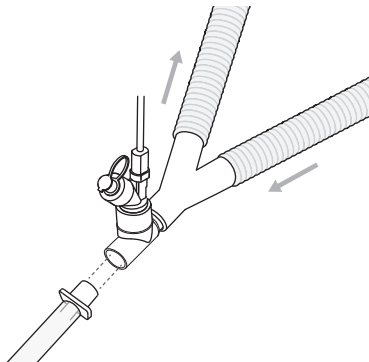

Figure 8. The Aerogen Solo placed between the wye and endotracheal tube.
3. The Aerogen Solo can be placed between the wye and endotracheal tube as shown in Figure 8. The Aerogen Solo can be used with a Heat and Moisture Exchange Device (HME) which may contain a filter.